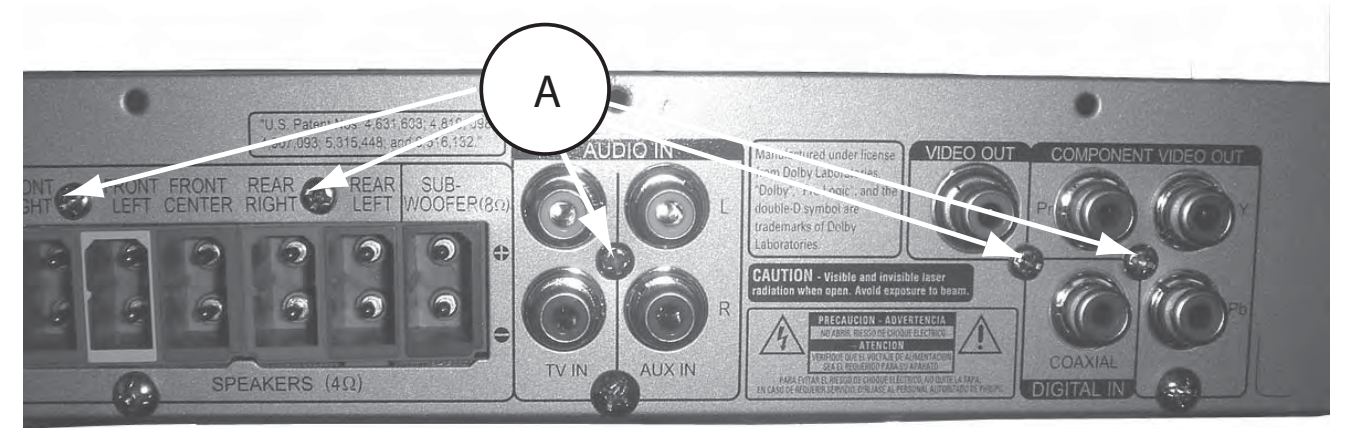

Figure 4
- 1) Loosen 5 screw "A" at the back panel as shown in figure 4.